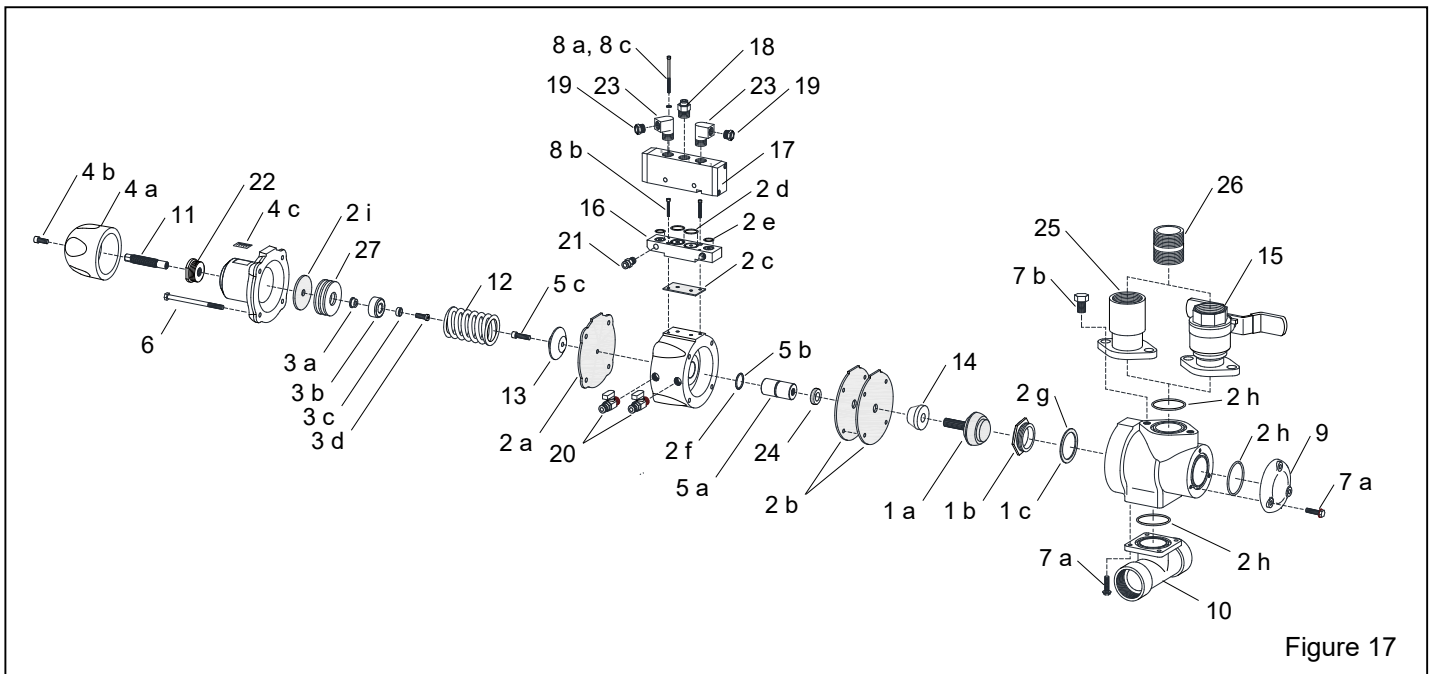

Figure 17
6.2 GritWizard Abrasive Metering Valve – Figure 17